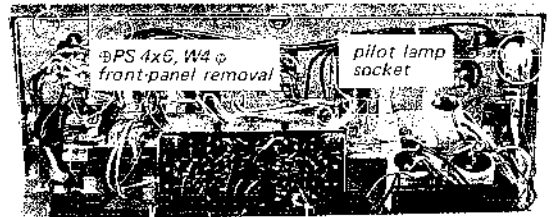

Fig. 2-3 Front-panel removal (1)
4. Remove the three screws (\oplus PS4x6) behind the top edge of the front subchassis assembly, as shown in Fig. 2-3.
2. Straighten the tab of the pilot-lamp holder to permit the removal of the lamp socket; then pull out the lamp socket. See Fig. 2-3.